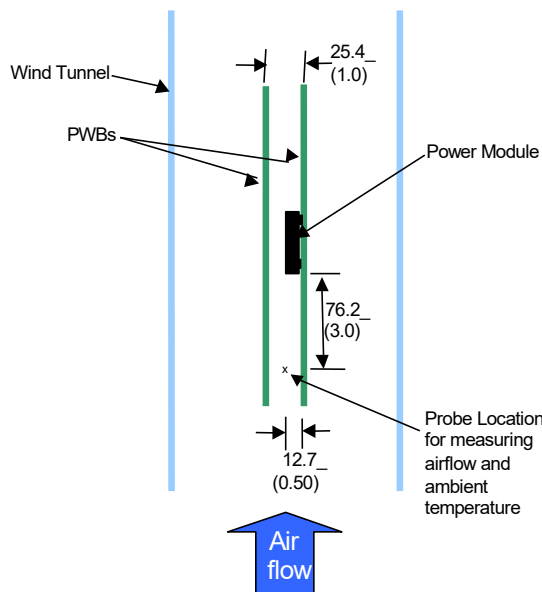
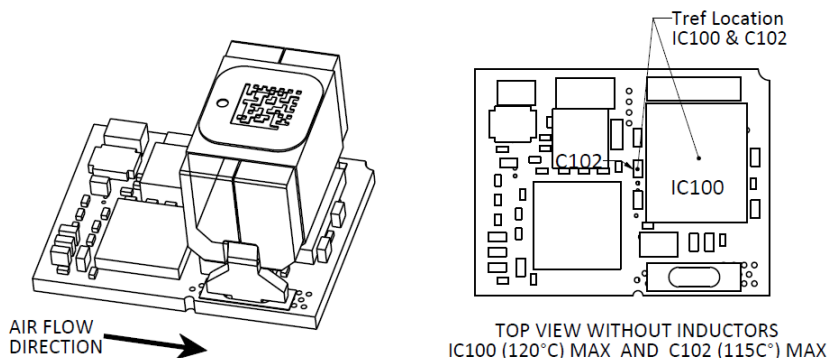

Figure 28. Thermal Test Setup.
Figure 29. Preferred airflow direction and the location of the thermal reference points
Power modules operate in a variety of thermal environments; however, sufficient cooling should always be provided to help ensure reliable operation. Considerations include ambient temperature, airflow, module power dissipation, and the need for increased reliability. A reduction in the operating temperature of the module will result in an increase in reliability. The thermal data presented here is based on physical measurements taken in a wind tunnel. The test set-up is shown in Figure 28. The preferred airflow direction for cooling the module and the thermal reference points, Tref used in the specifications are shown in Figure 29. For reliable operation the temperatures at these points should not exceed 120°C (IC100) and 115°C (C102). The output power of the module should not exceed the rated power of the module ( $V_{o,set} \times I_{o,max}$ ). Please refer to the Application Note “Thermal Characterization Process for Open-Frame Board-Mounted Power Modules” for a detailed discussion of thermal aspects including maximum device temperatures. Increased airflow over the module enhances the heat transfer via convection. The thermal derating of figures 2, 8, 14 and 20 show the maximum output current that can be delivered by each module in the indicated orientation without exceeding the maximum Tref temperature versus local ambient temperature (TA) for several air flow conditions. The thermal derating curves were generated using a 12 layer evaluation board with 3oz copper in inner layers and 2 oz in outer layers.